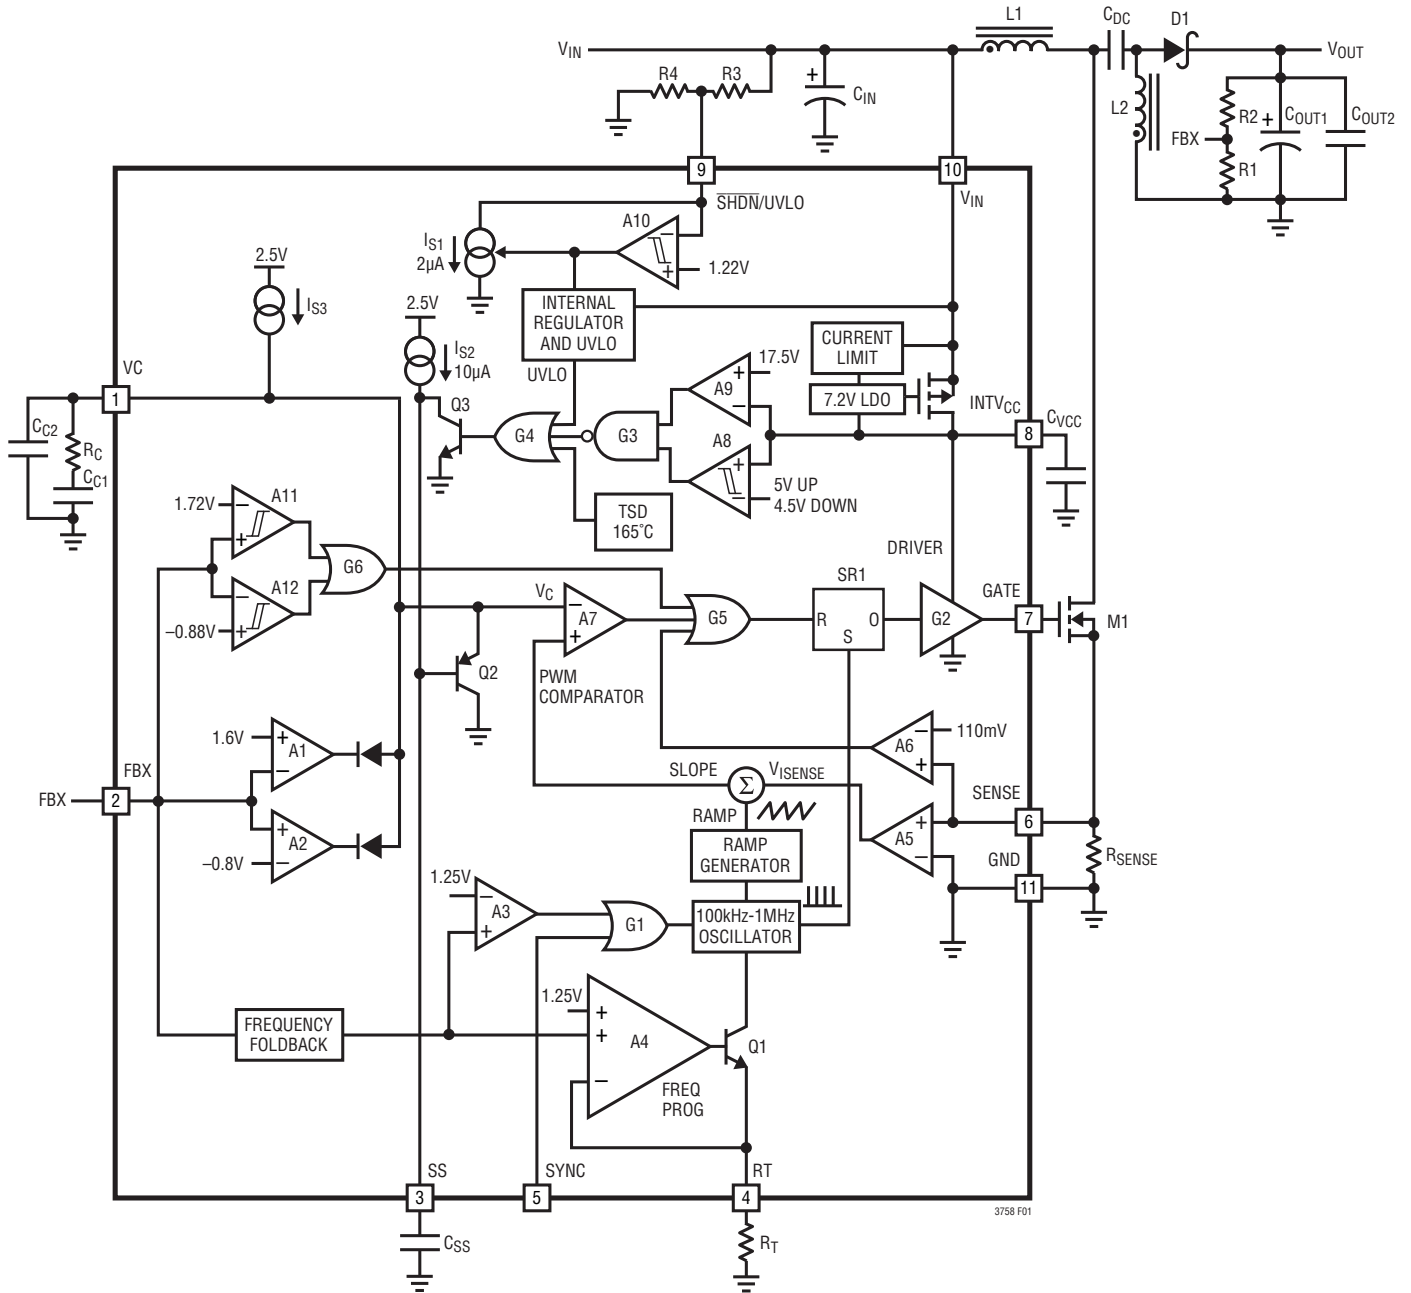

Figure 1. LT3758 Block Diagram Working as a SEPIC Converter
The LT3758 uses a fixed frequency, current mode control scheme to provide excellent line and load regulation. Operation can be best understood by referring to the Block Diagram in Figure 1.
The LT3758 is capable of generating either positive or negative output voltage with a single FBX pin. It can be configured as a boost, flyback or SEPIC converter to generate positive output voltage, or as an inverting converter to generate negative output voltage. When configured as a SEPIC converter, as shown in Figure 1, the FBX pin is pulled up to the internal bias voltage of 1.6V by a voltage divider (R1 and R2) connected from V_{OUT} to GND. Comparator A2 becomes inactive and comparator A1 performs the inverting amplification from FBX to VC. When the LT3758 is in an inverting configuration, the FBX pin is pulled down to -0.8V by a voltage divider connected from V_{OUT} to GND. Comparator A1 becomes inactive and comparator A2 performs the noninverting amplification from FBX to VC.
The purpose of this current is to allow the user to program the rising hysteresis. The Block Diagram of the comparator and the external resistors is shown in Figure 1. The typical falling threshold voltage and rising threshold voltage can be calculated by the following equations:
An internal, low dropout (LDO) voltage regulator produces the 7.2V INTV_{CC} supply which powers the gate driver, as shown in Figure 1. The LT3758 contains an undervoltage lockout comparator A8 and an overvoltage lockout comparator A9 for the INTV_{CC} supply. The INTV_{CC} undervoltage (UV) threshold is 4.5V (typical), with 0.5V hysteresis, to ensure that the MOSFETs have sufficient gate drive voltage before turning on. The logic circuitry within the LT3758 is also powered from the internal INTV_{CC} supply.
The choice of operating frequency may be determined by on-chip power dissipation, otherwise it is a trade-off between efficiency and component size. Low frequency operation improves efficiency by reducing gate drive current and MOSFET and diode switching losses. However, lower frequency operation requires a physically larger inductor. Switching frequency also has implications for loop compensation. The LT3758 uses a constant-frequency architecture that can be programmed over a 100kHz to 1000kHz range with a single external resistor from the RT pin to ground, as shown in Figure 1. The RT pin must have an external resistor to GND for proper operation of the LT3758. A table for selecting the value of R_T for a given operating frequency is shown in Table 1.
The output voltage V_{OUT} is set by a resistor divider, as shown in Figure 1. The positive and negative V_{OUT} are set by the following equations:
The LT3758 addresses this mechanism with the SS pin. As shown in Figure 1, the SS pin reduces the power MOSFET current by pulling down the VC pin through Q2. In this way the SS allows the output capacitor to charge gradually toward its final value while limiting the start-up peak currents. The typical start-up waveforms are shown in the Typical Performance Characteristics section. The inductor current I_L slewing rate is limited by the soft-start function.
the input voltage, load current, etc.). To compensate the feedback loop of the LT3758, a series resistor-capacitor network is usually connected from the VC pin to GND. Figure 1 shows the typical VC compensation network. For most applications, the capacitor should be in the range of 470pF to 22nF, and the resistor should be in the range of 5k to 50k. A small capacitor is often connected in parallel with the RC compensation network to attenuate the VC voltage ripple induced from the output voltage ripple through the internal error amplifier. The parallel capacitor usually ranges in value from 10pF to 100pF. A practical approach to design the compensation network is to start with one of the circuits in this data sheet that is similar to your application, and tune the compensation network to optimize the performance. Stability should then be checked across all operating conditions, including load current, input voltage and temperature.